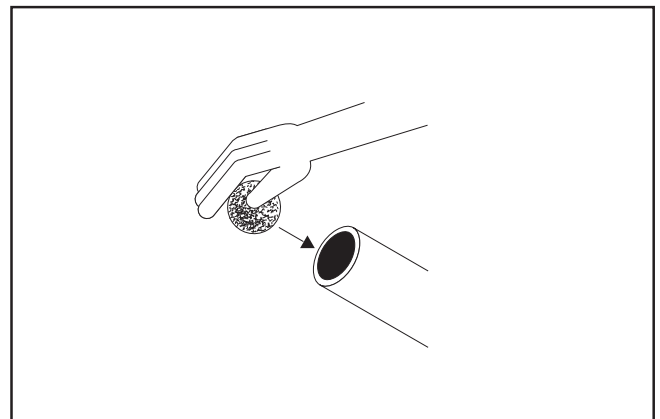

FIG.27
- Disconnect the hoses from GIOTTO and insert a washing sponge into the hose (FIG.27).